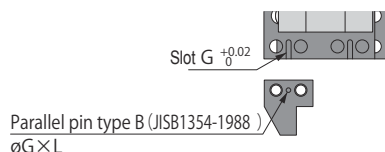

Fig. 7
- A centering slot on the finger can be used for attachment positioning. In case an attachment is prepared by user, insert a parallel pin type B (JIS B 1354-1988) (Fig.7) into the attachment, and then fix the attachment on the finger. Avoid any impact or excessive force in the pin insertion. Pin is not equipped.